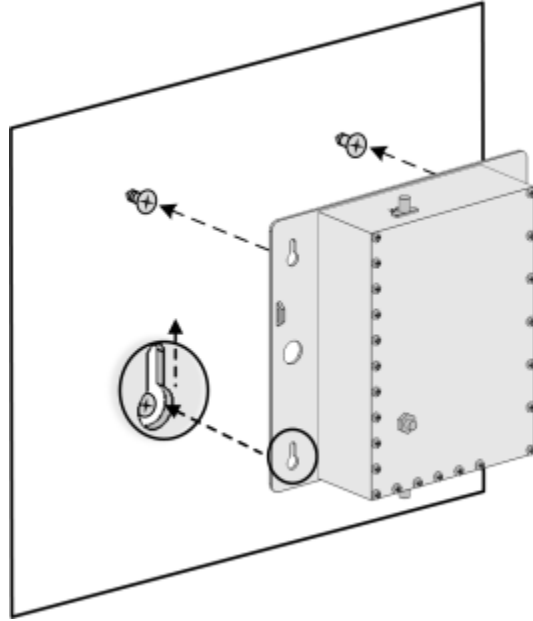

Figure 5-5. Mounting Cavity Filter on Wall
7. Hang the Cavity Filter on the anchors/screws and pull down to lock in narrow end of key hole. Refer to Figure 5-5.